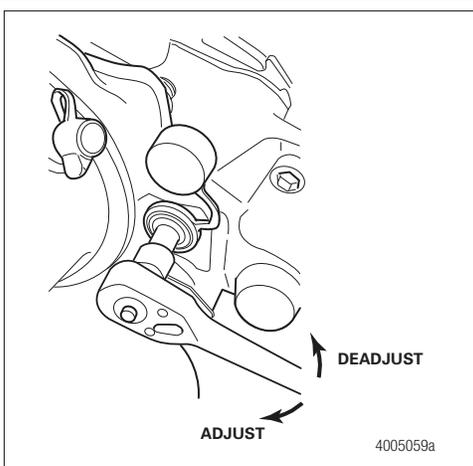

Figure 17
- Use a 10 mm wrench to rotate the manual adjuster stem **CLOCKWISE** so that the brake pad-to-rotor clearance is ZERO. Figure 17.
- C. Deadadjust the manual adjuster stem one half turn COUNTERCLOCKWISE to set the initial running clearance. Reinstall the adjuster cover. Figure 17.